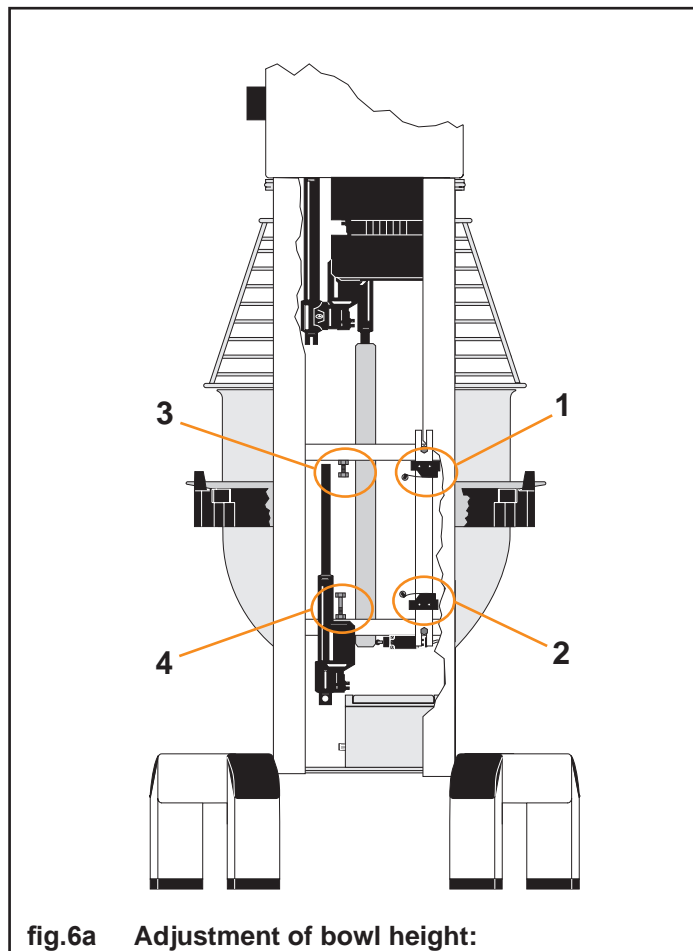

fig.6a Adjustment of bowl height:
The distance (X) is measured from the bottom side of the bayonet hole to the surface on the bowl arms on which the bowl rests (fig. 6a). The bowl arms must be lifted to normal working position.